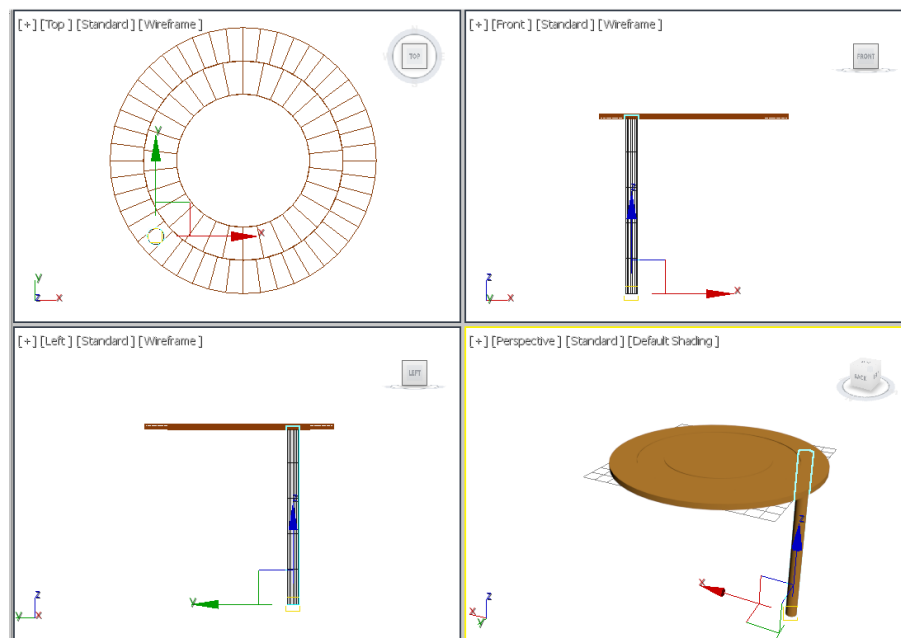

Figure 2-52 The *leg001* aligned in viewports
3. Align *leg001* with *Tube001* in viewports using the **Select and Move** tool, as shown in Figure 2-52.